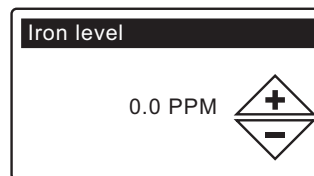

FIG. 21
11. **IRON LEVEL** Press the UP (▲) or DOWN (▼) buttons to set the value for iron in your water (See Figure 21)